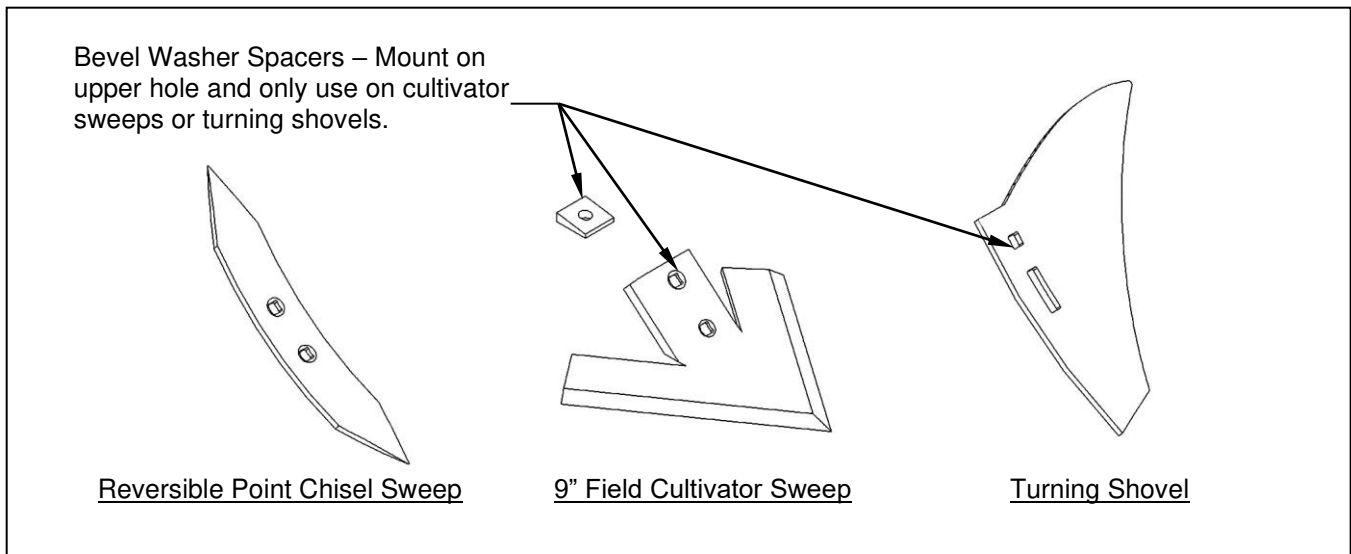
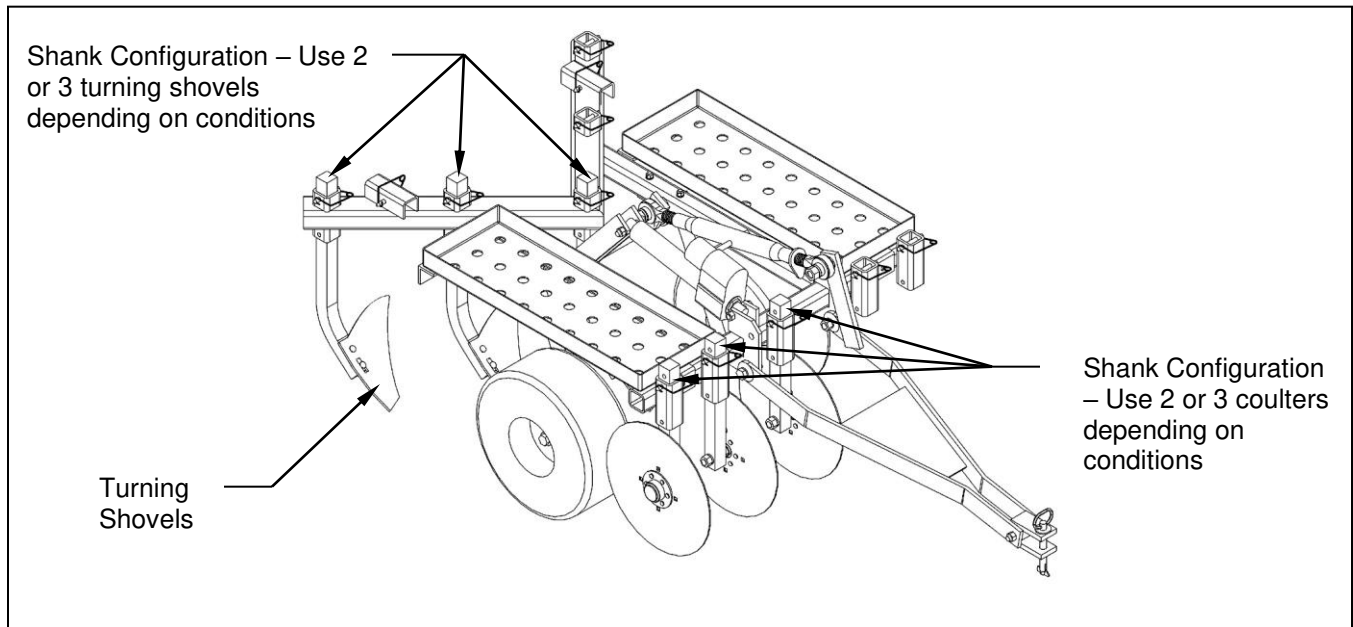

Figure 3. – Sweep Selection
Figure 6. – Turning Shovel Configuration
D. SELECTING THE PROPER SWEEP – Refer to Figure 3.
It is recommended that these conditions be mowed and sprayed with a grass killer. A grass killer will not only kill the green growth but will help to break up the root structure as well. Sod is also easier to work with in the spring or shortly after a rain. In some soft ground or limited sod conditions, it may be possible to use the 9" field cultivator sweeps or reversible point chisel sweeps. In most cases the optional turning shovel kit will work best (**Part # 003801**). The turning shovels have the ability to strip the sod off and roll it to the side to prevent collecting on the shanks. In hard ground conditions it may be necessary to install the provided bevel washer spacers shown in Figure 3. These spacers will place the shovels at a steeper more aggressive angle of attack. In all cases additional weight is very helpful to maintain coulters penetration. The coulters will cut the sod which helps prevent collection on the shanks and reduces the pulling load requirements. In heavy sod conditions it may work best to only use two turning shovels. If only two turning shovels are used place the shovels on the shanks closest to the center of the tool. **(See Figure 6.)**